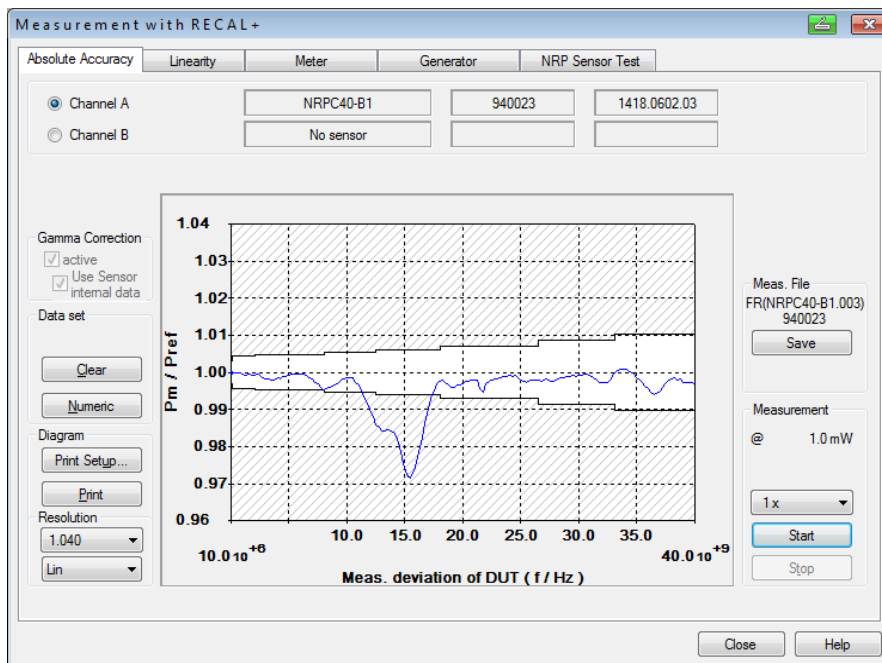

Fig. 4-1 Verification result for an R&S®NRPC40 power standard following damage to the RF connectors
Perform one or more measurement cycles (depending on requirement); otherwise proceed as described under **Checking the Absolute Accuracy**. The averaged trace must lie within the tolerance band shown in the graphical display. The tolerance limits are significantly tighter compared to a normal thermal sensor. If the trace rises or falls uniformly over all of the frequency range, this indicates a change in the sensitivity of the power standard or the verification sensor. An oscillating frequency response as seen in Fig. 4-1 indicates that the matching conditions on the RF connection have changed. In this case, a visual inspection is necessary and the connectors should be cleaned. If the ripple does not disappear despite cleaning the connectors of the verification sensor and the power standard, the RF connector for the power standard can be exchanged with the supplied replacement adapter (21). For a description of the steps required to do this, see the appendix under **Exchanging the RF Connector at the Test Port of the Power Standard**.